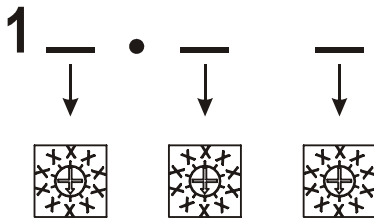

Figure 8.1
13.62 volts, set the left switch to 3, the middle switch to 6, and the right switch to 2 (see the figure 8.1). This will provide you with the proper charging voltage. The tens digit is always a one (1) and cannot be changed. **BE SURE EACH SWITCH IS SET ON A NUMBER AND NOT BETWEEN NUMBERS.** If a switch is set between numbers, the output current will go to zero and the yellow charging LED will flash.